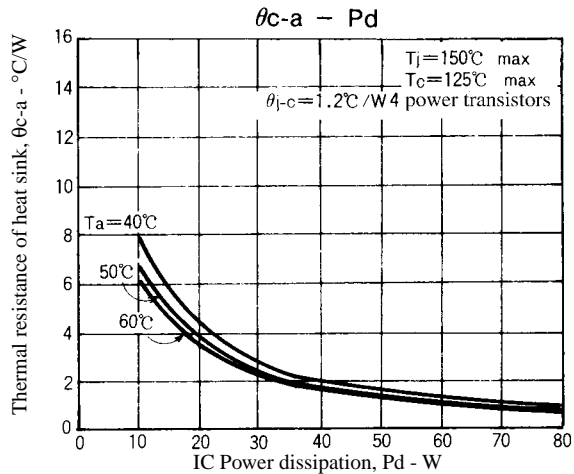

Figure 2. STK4048XI θc-a – Pd
Figure 2 shows the relation between Pd and θc-a given from (1) and (3) with Ta as a parameter.
The thermal resistance of a heat sink is obtained from Figure 2.